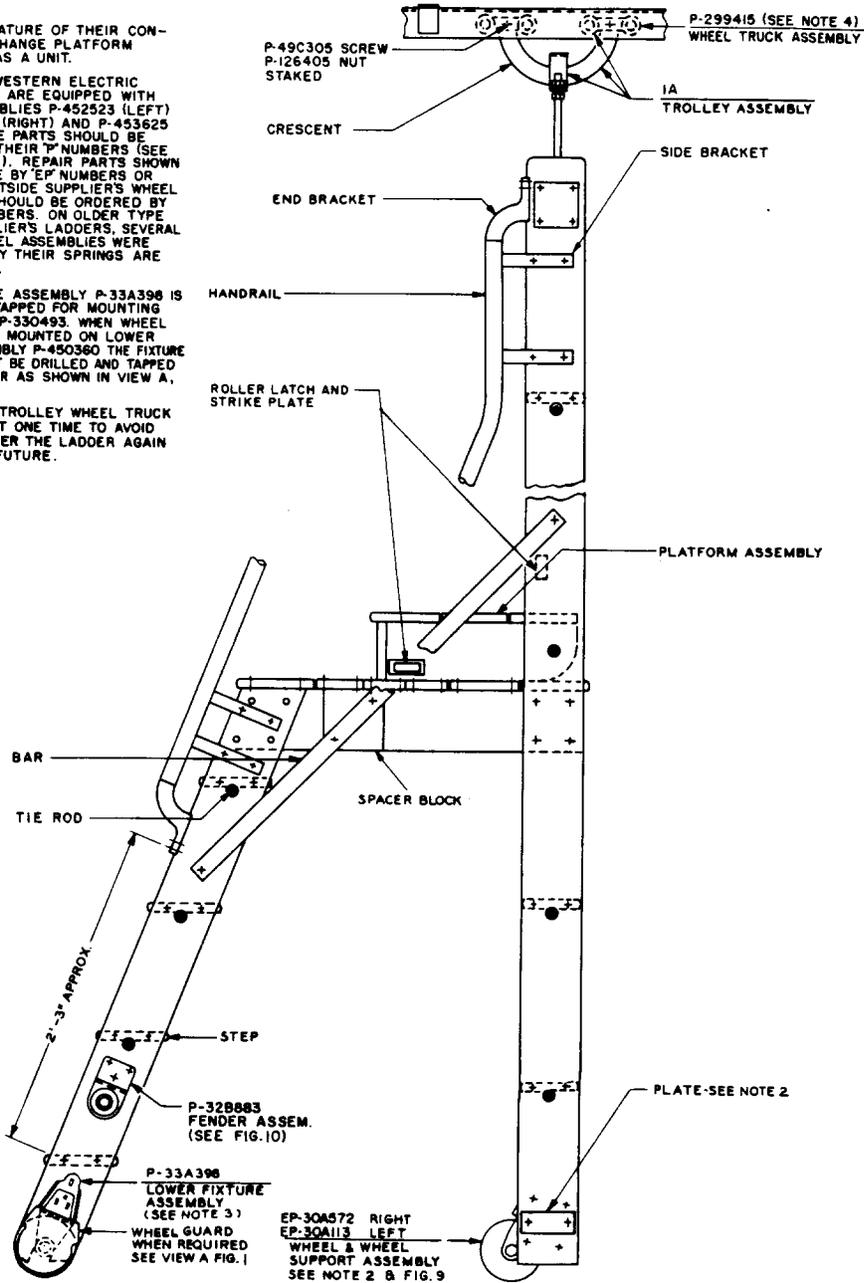

Fig. 6—Platform-Type Rolling Ladder, KS-5139-014
2. LADDERS OF WESTERN ELECTRIC MANUFACTURE ARE EQUIPPED WITH WHEEL ASSEMBLIES P-452523 (LEFT) AND P-432663 (RIGHT) AND P-453625 PLATES. THESE PARTS SHOULD BE ORDERED BY THEIR P NUMBERS (SEE VIEW A, FIG. 6). REPAIR PARTS SHOWN ON THIS FIGURE BY EP NUMBERS OR PARTS FOR OUTSIDE SUPPLIER'S WHEEL ASSEMBLIES SHOULD BE ORDERED BY THEIR EP NUMBERS. ON OLDER TYPE OUTSIDE SUPPLIER'S LADDERS, SEVERAL TYPES OF WHEEL ASSEMBLIES WERE USED AND ONLY THEIR SPRINGS ARE REPLACEABLE.